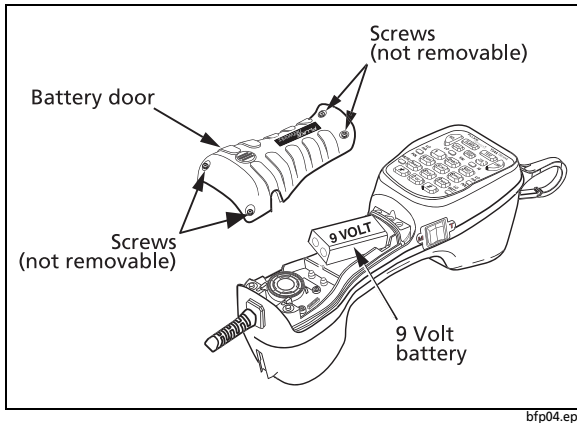

Figure 4. Battery Replacement
See Figure 4.
- 1 Use a Phillips screwdriver to loosen only the four screws attaching the battery door cover to the back of the test set (See Figure 4).
- 2 Remove the battery door cover (see Figure 4) and battery from the test set.
- 5 Place the battery door cover on the test set and fasten the four screws (see Figure 4). Tighten screws to a maximum torque of 0.904 N-m or 8 in-lb.